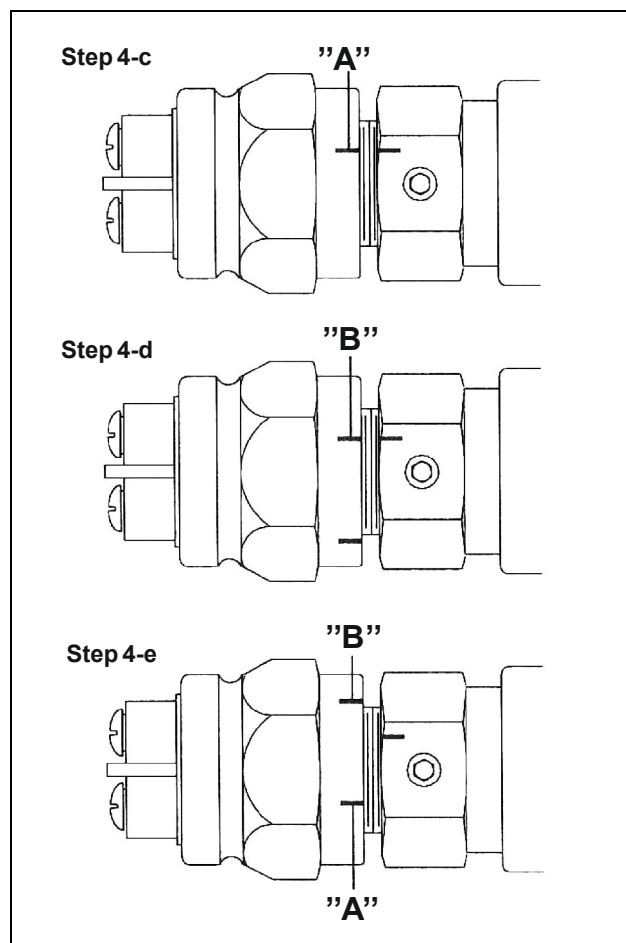

Figure 5-97. Neutral Lockout Switch Assembly
- c. Move the control arm out of the detent position. The test light will go on. Screw in the switch until the light goes off. Mark this as position "A". See Figure 5-97. Move the control arm to the detent position and the test light should come back on.
- e. Unscrew the switch one third of the distance between "B" and "A". Install and tighten the hex socket head set screw in one of the main quadrants of the hex of the switch adapter. See Figure 5-97. Torque set screw 2.3 to 2.8 in. lbs. (3.2 to 3.8 Nm).